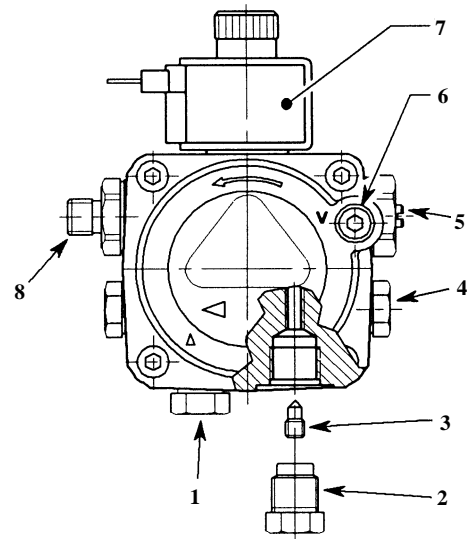

Fig. 6 - RDB pump
**3.3.6 Two pipe oil supplies - (See Fig. 6)**
- 1 The fuel pump is supplied for use with a single pipe fuel supply system. For use on a two pipe system, it is necessary to fit the By-pass screw (see Fig. 6) into the tapping in the return port.